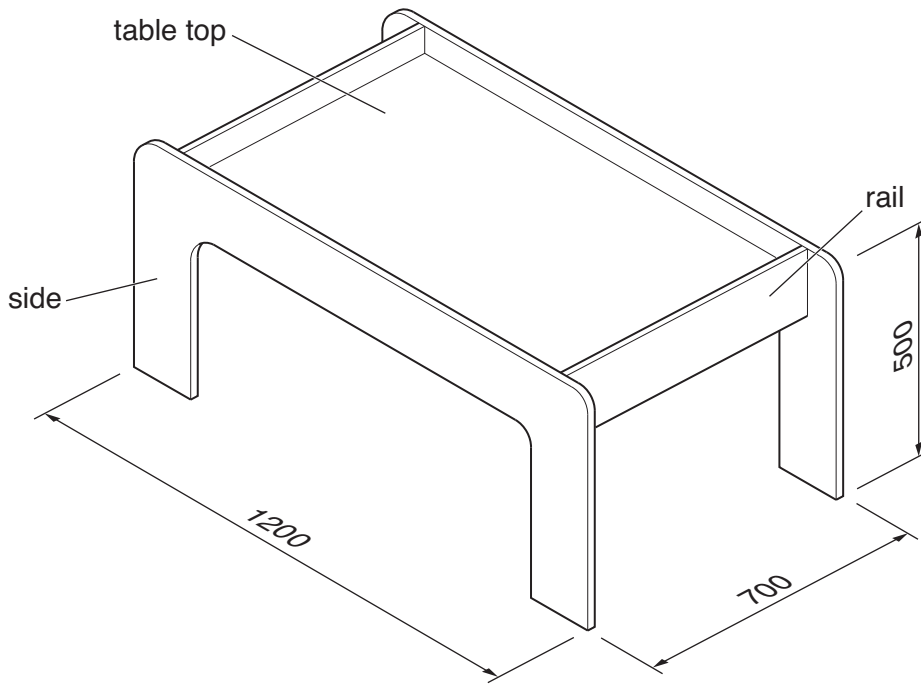

Fig. 2
- 2 Fig. 2 shows a games table for children. The games table is made from 18 mm thick manufactured board and supplied as a flat-pack for self-assembly.